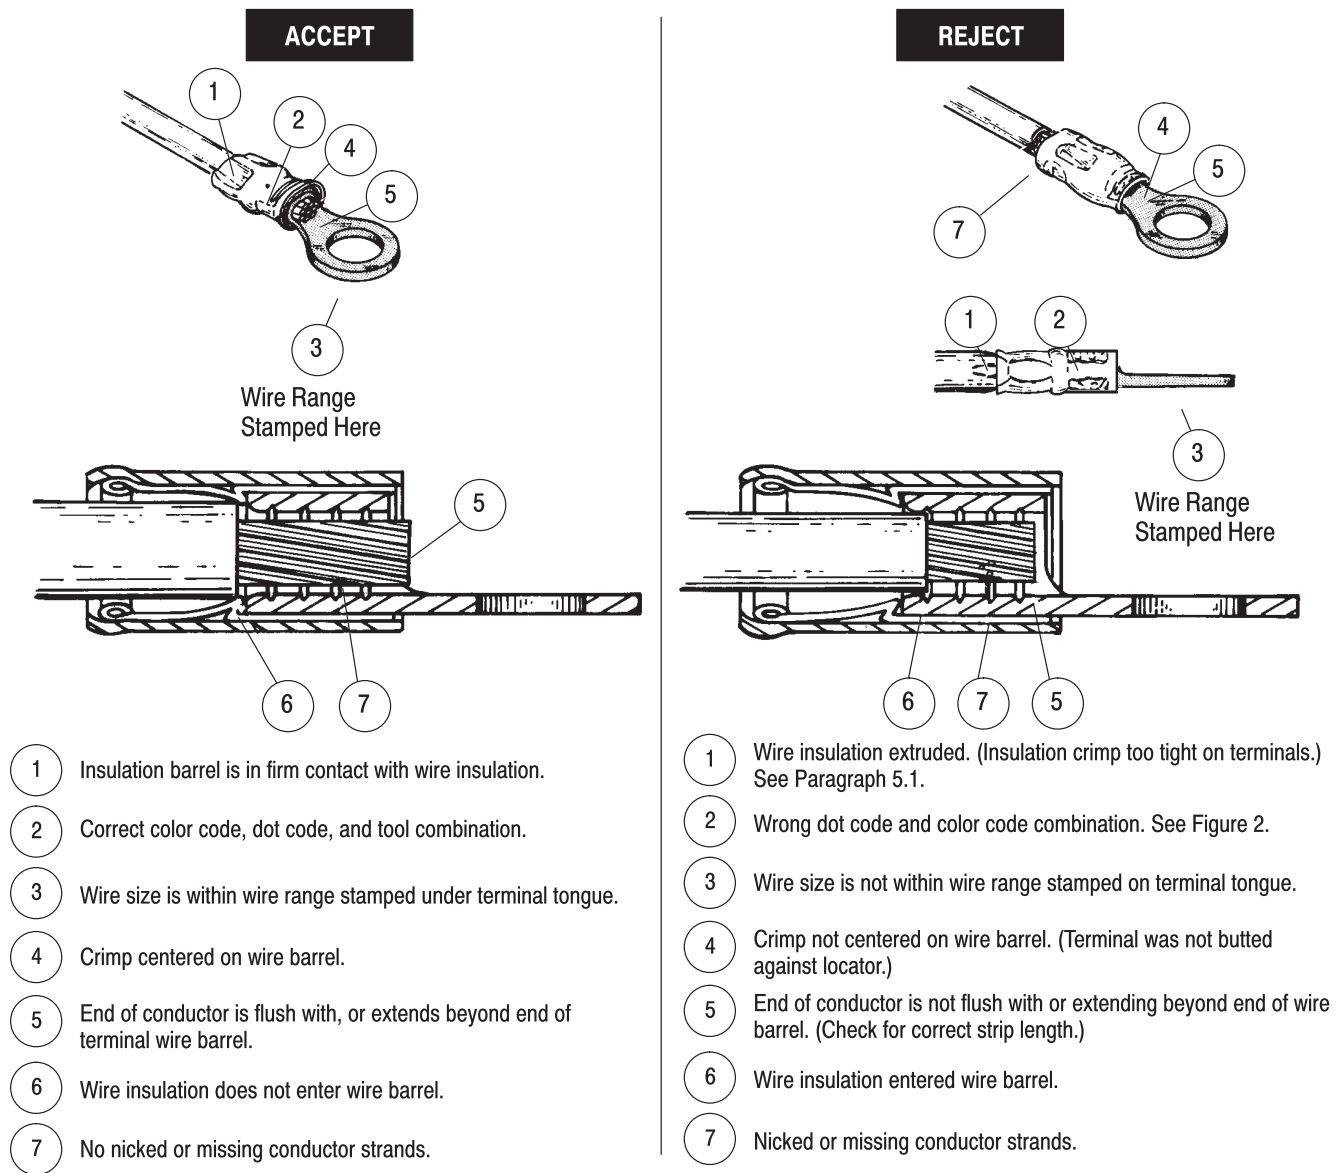

Figure 4
6. Refer to Section 4 and Figure 4 for terminal crimp inspection procedure.
Inspect crimped terminals by checking the features described in Figure 4. Terminals, not meeting the described conditions should NOT Be used.